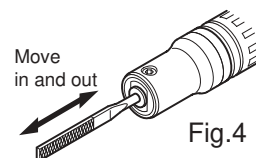

Fig.4
(1) Move the Valve to OFF and disconnect the air hose from the supply line.
(2) Move the file in and out several times with your hand.(Fig.4)
(3) Dispense 5 drops of ISO VG-10 machine tool oil in the tools air hose.
(4) Reconnect to the air supply hose and move the Valve to ON.